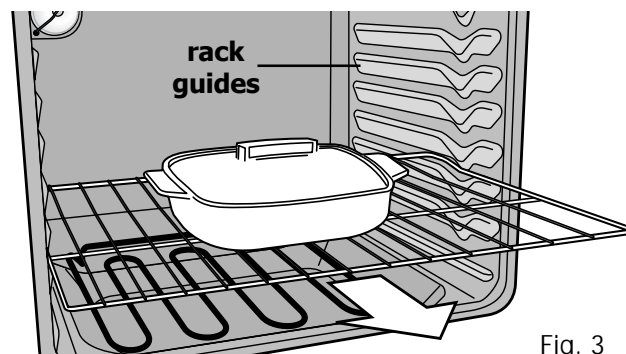

Fig. 3
For better access to food items in the oven, **slowly** pull the oven rack straight out to the oven rack stop position (Fig. 3) before checking on food items or removing food dishes from the oven.
4. Assemble one connector arm at a time. With the oven door open and the oven rack in place, install one end of the connector arm to the hole in the **door connector bracket** (Fig. 1) and the other end in the hole in the **rack connector bracket** (Fig. 2 and as in Fig. 3). The oven rack may need to be adjusted in or out in the rack position to match the length of the connector arm.